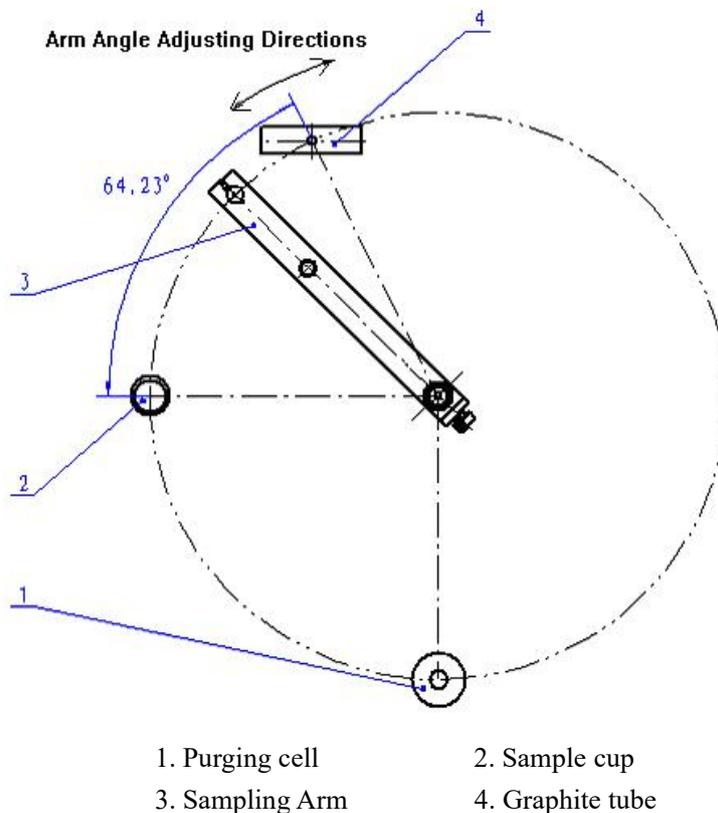

Fig. 7-3 Rotary Angle Adjustment Schematic Diagram of Sampling Arm
For example: The rotation of the swinging arm is controlled by the computer to make the sampling pin swinging to the sampling hole position of the graphite tube (4), and then the corresponding selection is made via the main control board of the sampler, use the keyboard (6) to make the adjustment of swinging arm and rotating angle in the direction as shown in Fig7.3 the corresponding selection is made via the main control board of the sampler, use the keyboard (6) to adjust the sampling pin in the graphite tube up and down depth as shown in Fig. 7-2.
(1) Position adjustment of the sampling pin and the graphite tube
Firstly click “Turn arm” key to make the sampling arm rotating to the above of the graphite furnace, observe if the sampling pin is just located at the above of the sampling hole of graphite tube. If it is not, loosen the lock knob (2) shown in Fig. 7-2 and carry out fine adjustment with the adjust knob (3), synchronously make the adjustment of the rotary angle as shown in Fig. 7-3. If it is still unable to aim at the sampling hole of the graphite tube, press “ “ key, the sampling arm rises, repeatedly adjust the sampling pin forth and back, right and left positions. After completing the adjustment, click “Down arm” key to make the sampling arm falling down and adjust the depth of the sampling